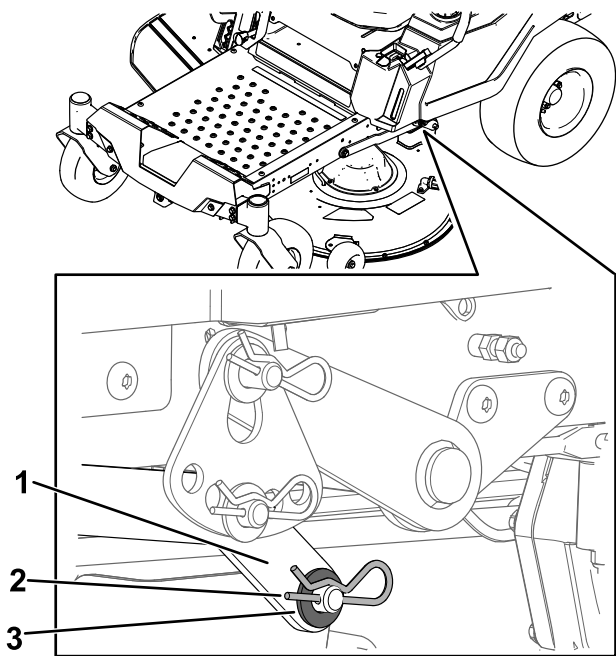

Figure 69
6. On 1 side of the machine, remove the washer and hairpin cotter from the deck pin (Figure 69).
7. Remove the lift arm from the deck pin (Figure 69).
5. On 1 side of the machine, lift the rear of the mower deck and install the lift arm to the deck pin (Figure 69).
6. Install the lift arm using the washer and hairpin cotter (Figure 69).